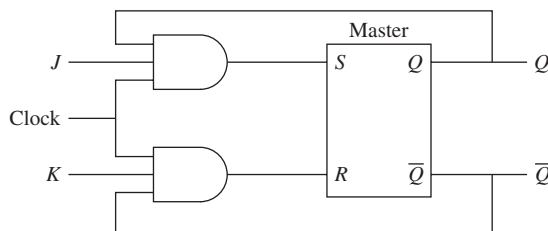

FIGURE P10.59 JK flip-flop for Problem 10.59.
10.59 (B) For the JK flip-flop shown in Figure P10.59, the current values of J and K are $J = 0$, $K = 0$, and $Q = 0$. What is the value of Q when J changes to 1, and K changes to 0 on the arrival of another clock pulse?
- 10.72(H) For the JK flip-flop shown in Figure P10.59, the current values of J and K are $J = 0, K = 0$, and $Q = 0$. Use PSpice to set up the digital logic circuit. The JK flip-flop circuit can be obtained from part “JKFF” in the DIG_PRIM library. Solution